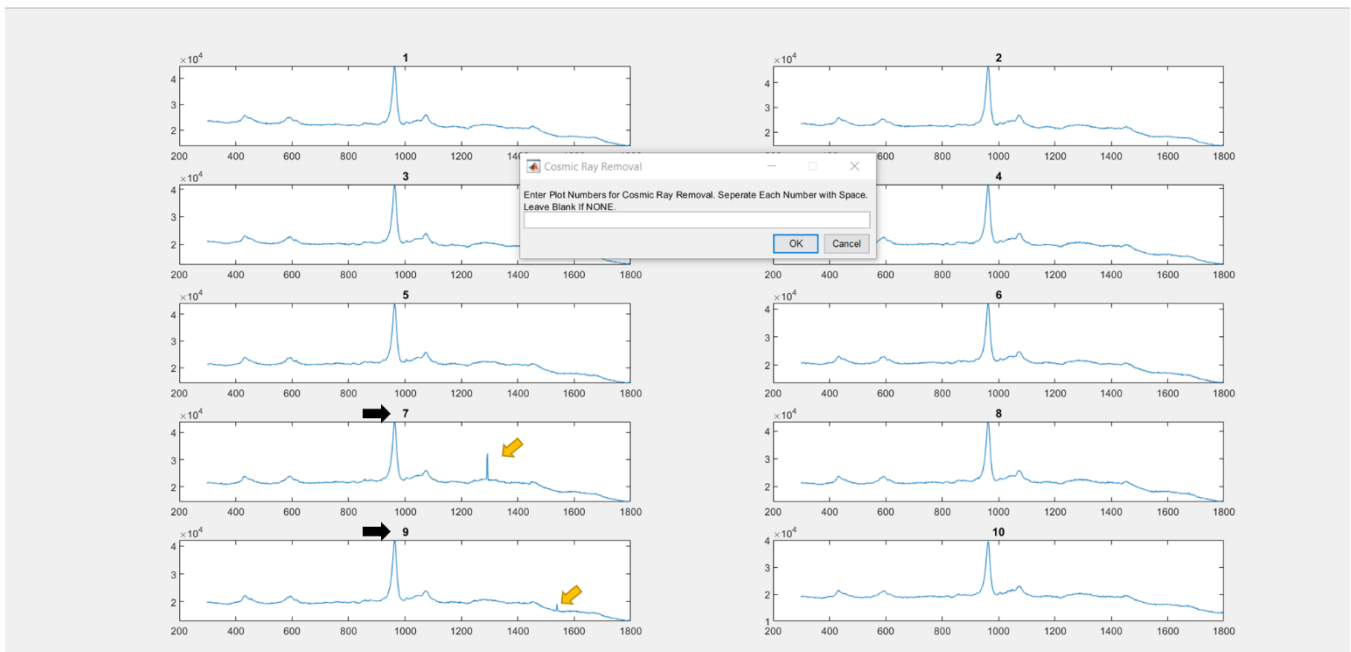

Figure 28: Cosmic ray removal. Yellow arrows indicate spikes caused by cosmic ray; black arrows indicate plot numbers that need to be entered the input box.
- The cosmic ray removal process is activated after importing files for analysis. Each imported spectrum will be plotted and displayed in a window. User will be asked to input file numbers for cosmic ray removal. (Fig. 28)
- Enter the plot number of the spectrum affected by cosmic ray (black arrows in Fig. 28) into the input box and click 'OK'.